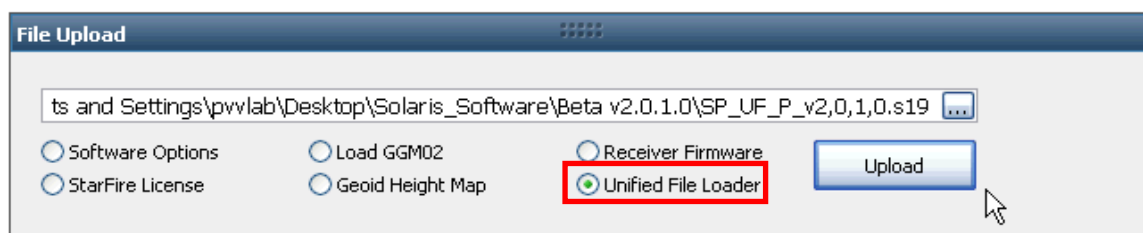

Figure 65: File Upload – Unified File Loader Option
2. Select *Unified File Loader* on the *File Upload* window (see Figure 65).
5. Select the appropriate *unified* (SP_UFL) file to upload and click  (see Figure 65).